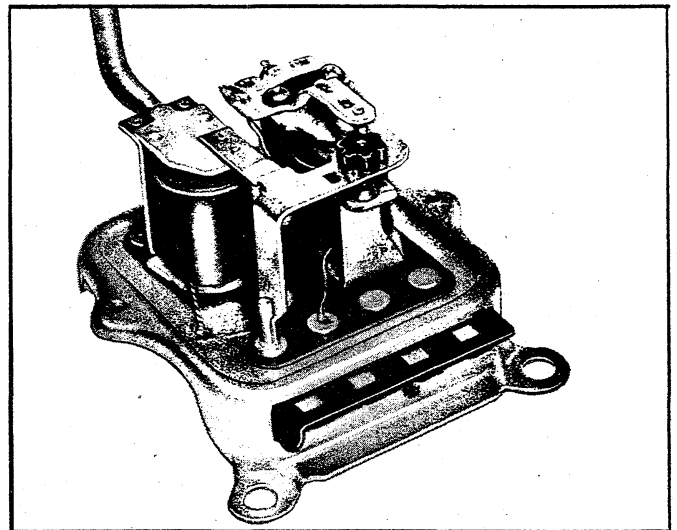

Fig. 13c—Adjusting Field Relay Closing Voltage
4. Slowly decrease resistance and note closing voltage of the relay. Adjust by bending heel iron in the manner illustrated in Figure 13c.